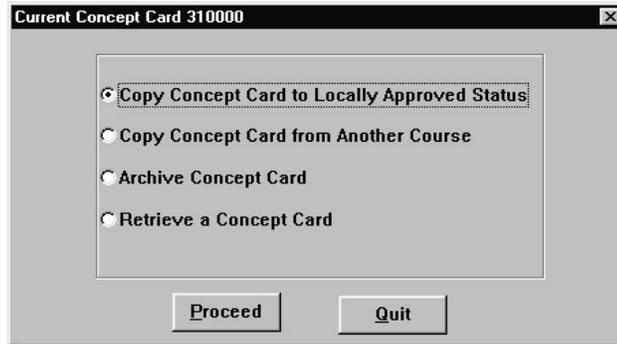
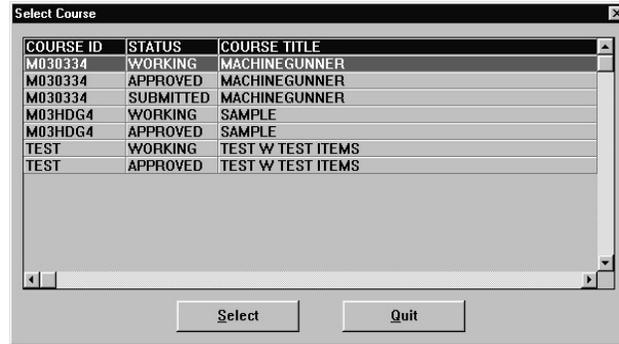

Figure 6-74. Current Concept Card
Figure 6-75. Select Course
- a. In a Working course, the Current Concept Card dialog box (Figure 6-74) opens. Proceed to Step 2.
1. From the Current Concept Card dialog box (Figure 6-74), choose Copy Concept Card From Another Course and click on **Proceed**. If there are no other courses to which you have access, you will receive a message to that effect. Otherwise, the Select Course selection list box (Figure 6-75) opens with a list of other courses to which you have been granted access.
1. From the Current Concept Card dialog box (Figure 6-74) in a Working course, choose Archive Current Concept Card and click on **Proceed**. (In a Locally Approved or Submitted course, click on **Copy** from the Concept Card Maintenance selection list box.) The Archive Concept Card dialog box opens for you to designate a file name and destination.